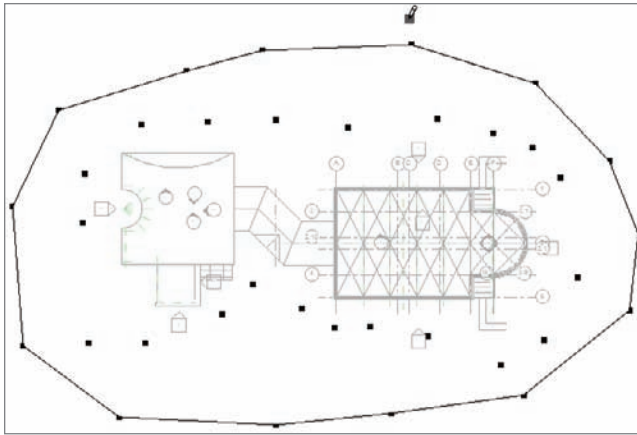

FIGURE 18.3 Adding the second contour to the site
6. Pick a circle surrounding the inside contour lines, as shown in Figure 18.3.